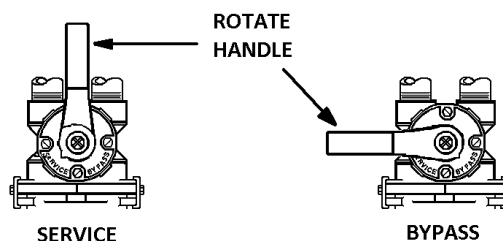

FIGURE 3: Stainless Steel Bypass Valve
- STEP 7:** Place bypass in the "Bypass" position (refer to Figure 3 below). Open main supply valve or turn on power to pump on private well systems.
- STEP 9:** Refer to Figure 3 (page 5) for appropriate bypass valve operation. Rotate bypass lever of stainless steel bypass $\frac{1}{4}$ of the way to Service allowing unit to fill slowly. Filling the media tank in this position will force any trapped air and carbon dust to the drain. Leave the unit in bypass until the air is purged and only water runs to the drain.